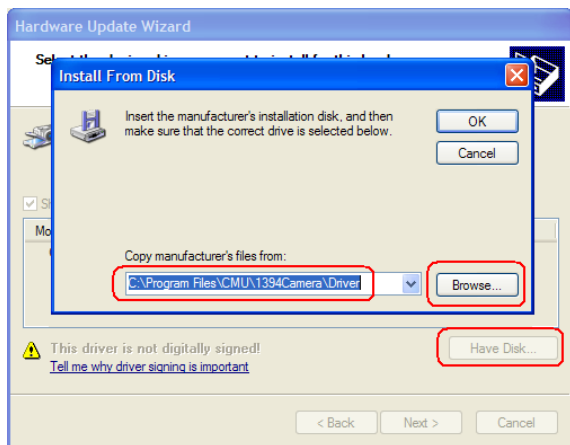

Figure 3.12 Install From Disk Window
- e. Press Have Disk... and browse to “C:\Program Files\CMU\1394Camera\Driver\1394Camera.inf” (**Figure 3.12**).